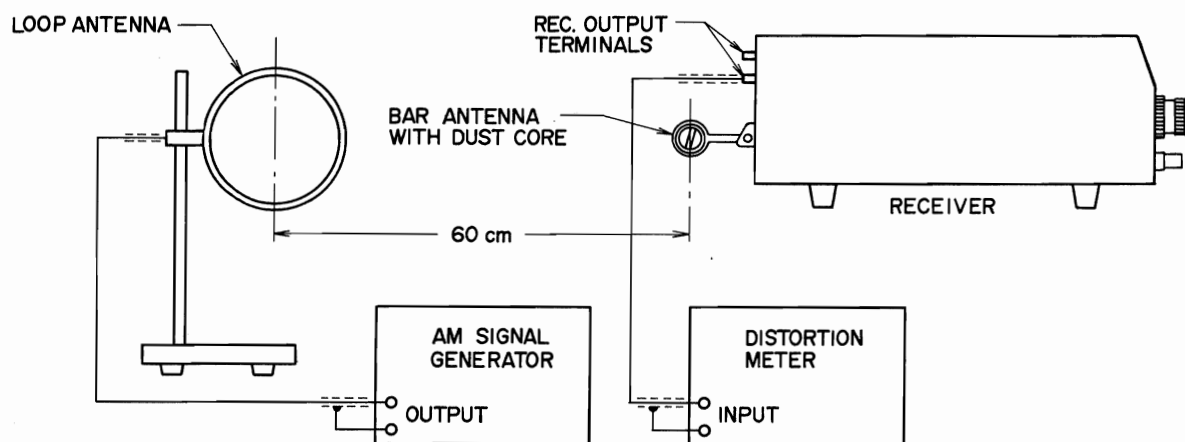

Fig. 16 INSTRUMENT CONNECTIONS
- 1) Connect the various measuring instruments as shown in Fig. 16.
Bar Antenna Dust Core (Low Range)	Fig. 16
- 2) Measuring instrument connections are the same as described in Tracking Adjustments. (Refer to Fig. 16)
- 5) Adjust dust core of Bar Antenna shown in Fig. 16 until the distortion meter level is maximum and the distortion factor is minimum.